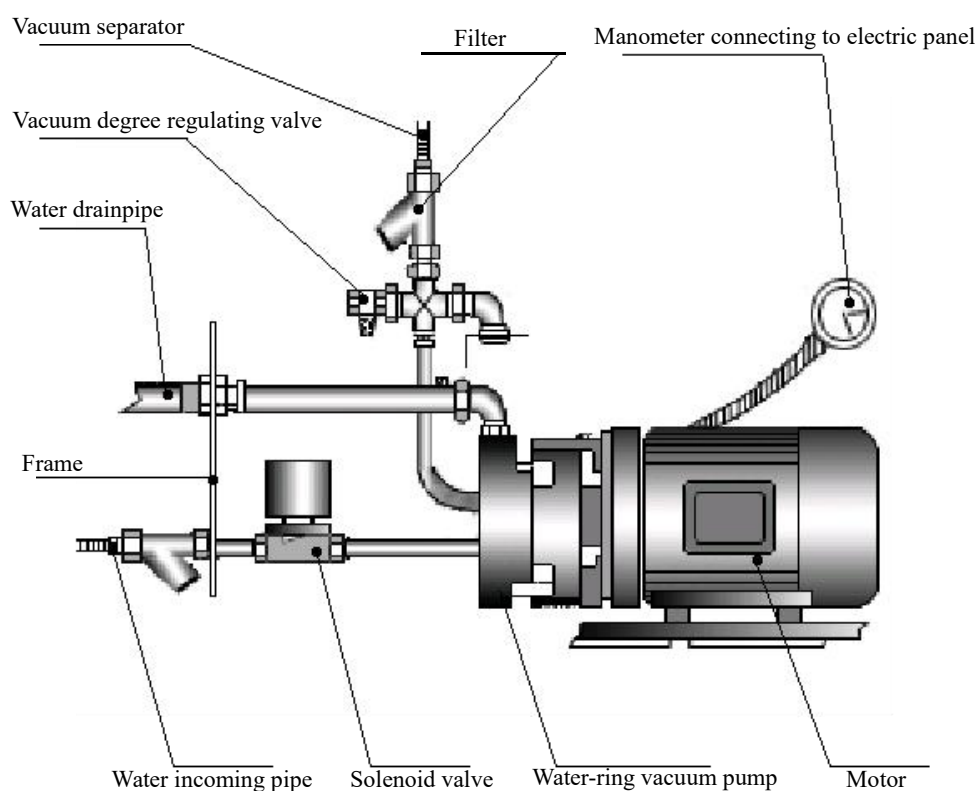

Fig. 33 Vacuum System
### 5.2.15 Adjustment of Vacuum (refer to Fig. 33)
8.3 Regularly open and clean the filter of vacuum system. (Refer to Fig. 33)